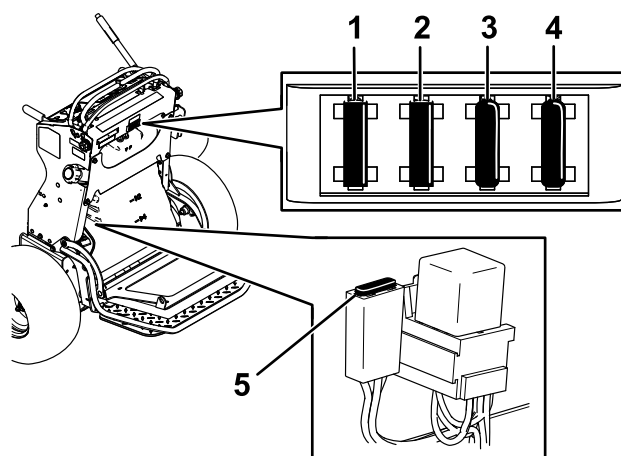

Figure 51
5. Pull out the fuse and replace it (Figure 51).